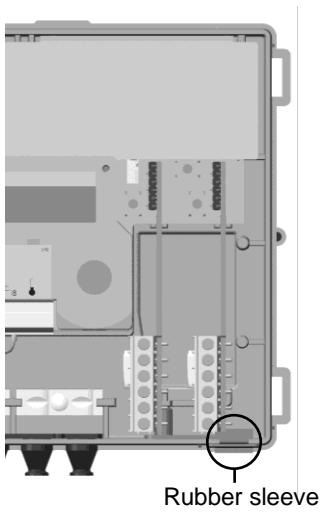

Fig. 1: rubber sleeve
- Move the right outside rubber sleeve upwards and outwards (see Fig.1).